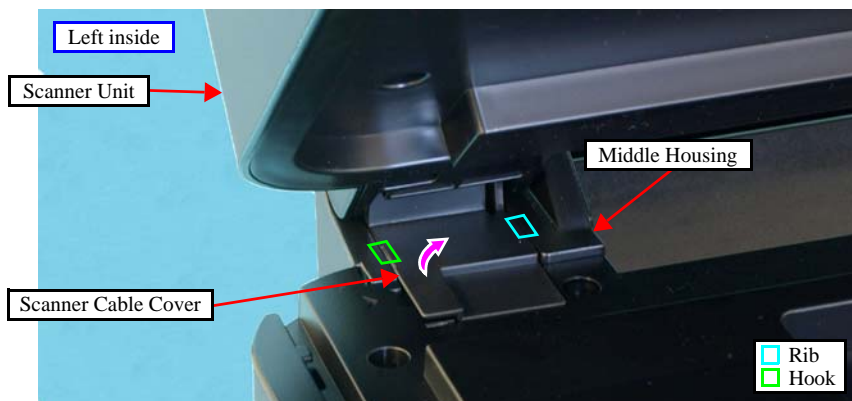

Figure 4-10. Removing the Scanner Cable Cover
- When attaching the Scanner Cable Cover, insert the rib of the Scanner Cable Cover to the hole of the Middle Housing, and secure it with the hook. (*See Figure 4-10.*)